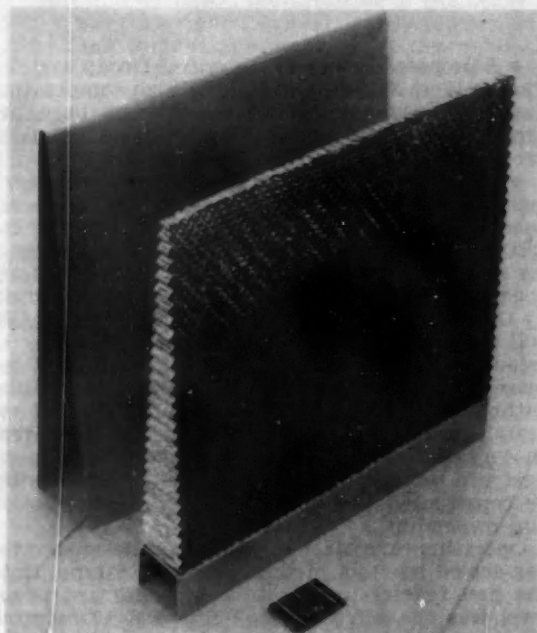

Fig. 6—Structural configuration of wing edge member, main core blanket and facings.
6. With the spar design established, consideration probably would now be given to the structural configuration of the wing edge member, main core blanket and facings. Many combinations, such as the one shown in Fig. 6, would be studied for their applicability. The idea of using a wrapped skin, as shown, would have to be discarded because of the requirement for a sharp leading edge. Edge member design would probably become a choice between the formed sheet metal channel shown and a doubler-densified core combination. Let us assume the designer settles on the latter configura-